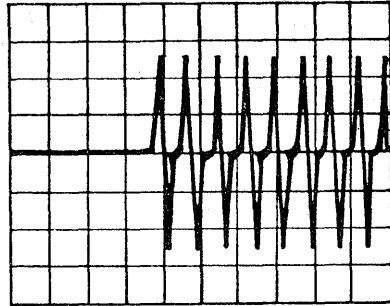

Figure 4-5. Circumferential/Azimuth Alignment Waveform
- f. Measure the time between the leading edge of the index pulse and the first peak of the index alignment burst (see figure 4-5). The time should be in the range of 100 to 300 μ sec. Note the value and proceed to step g.